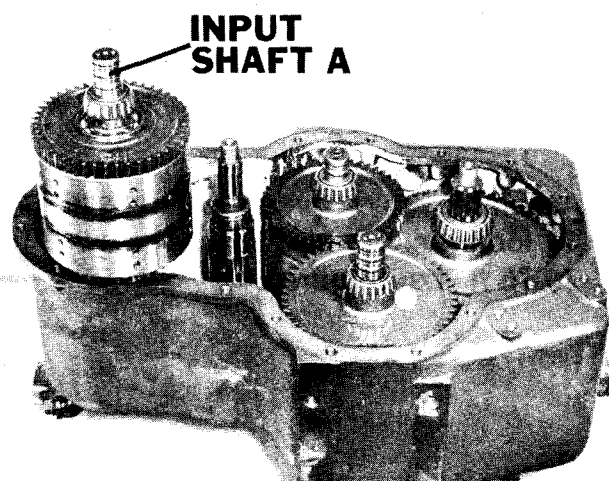

Figure 51
9. Lower input shaft assembly (A) into case (Figure 51).